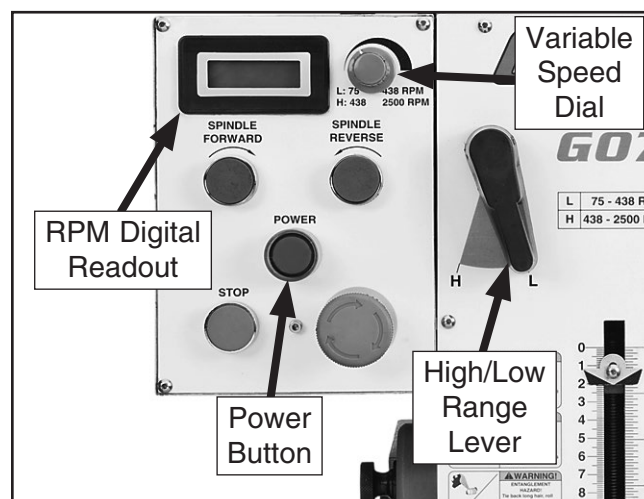

Figure 33. Control panel and spindle speed controls.
1. Shift high/low range lever (see **Figure 33**) to either "L" (spindle speeds 75–438 RPM) or "H" (spindle speeds 438–2500 RPM).